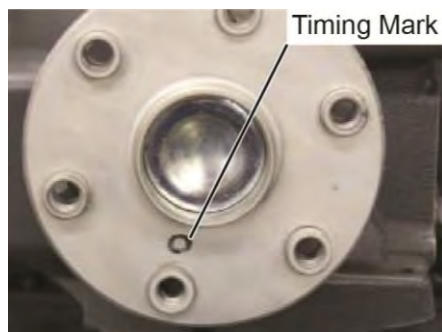
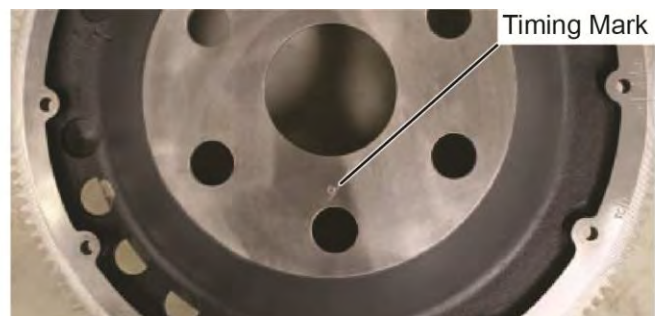

Figure 7
Figure 8
- J. Align the timing marks on the crankshaft flange (Figure 7) with the timing mark on the starter ring gear assembly (Figure 8).